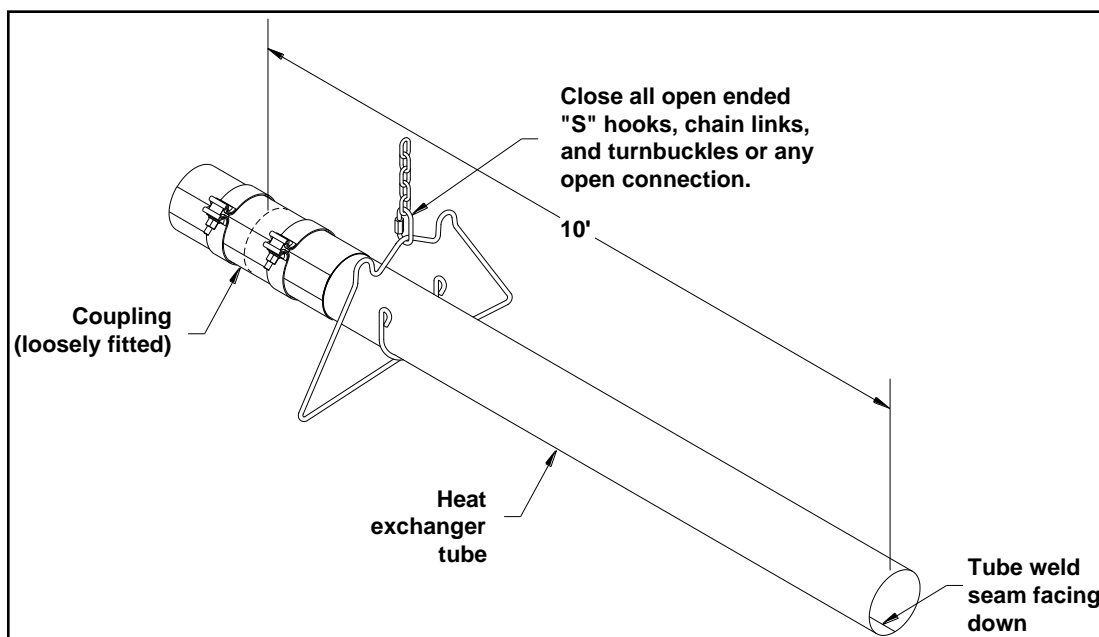

Figure 9: Installation of Heat Exchanger Tube and Coupling
- For all remaining tubes, fit the end of the tube with a coupling refer to Figure 9, (the coupling should be loose).